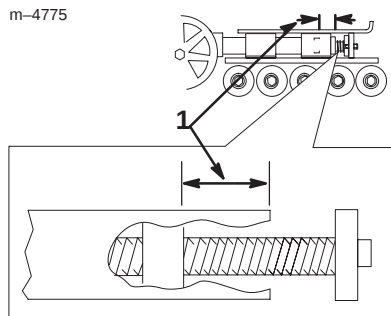
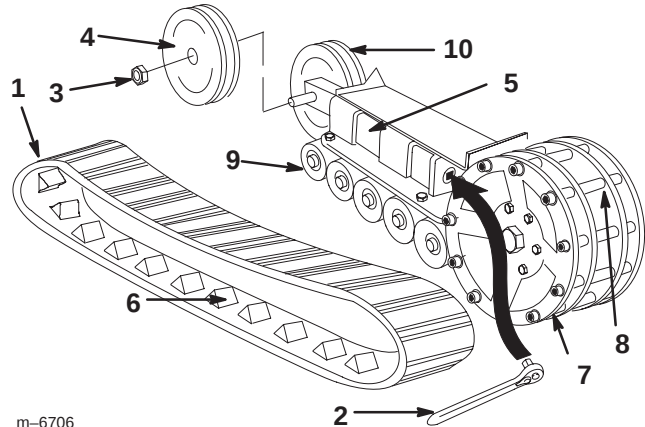

Figure 34
Figure 37
Check and adjust the track tension every 100 operating hours. There should be 2-3/4 inches (7 cm) between the tension nut and the back of the tension tube (Fig. 34). If not, adjust the track tension using the following procedure:
4. Using a 1/2 inch drive socket (Fig. 37), turn the tensioning screw counter-clockwise until the distance between the tension nut and the back of the tension tube (Fig. 34) is 2-3/4 inches (7 cm).
11. Turn the tensioning screw counter-clockwise until the distance between the tension nut and the back of the fork tube (Fig. 34) is 2-3/4 inches (7 cm).
5. Push the tension wheel toward the rear of the unit to move the tension tube against the frame (Fig. 37). (If it does not touch the frame, continue turning the tensioning screw until it does.)
6. Remove the nut securing the outer tension wheel and remove the wheel (Fig. 37).
7. Remove the track (Fig. 37).
8. Remove the nut securing the inner tension wheel and remove the wheel (Fig. 37).
12. Install the inner tension wheel and secure it with the nut removed previously (Fig. 37).
14. Install the new track, ensuring that the lugs in the track fit between the spacers in the middle of the drive sprocket (Fig. 37).
15. Install the outer tension wheel and secure it with the nut removed previously (Fig. 37).
17. Turn the tensioning screw counter-clockwise until the distance between the tension nut and the back of the tension tube (Fig. 34) is 2-3/4 inches (7 cm).